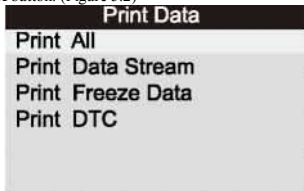

Figure 5.2
- 4) Use the UP/DOWN scroll button to select Print Data from Main Menu in the scan tool, and press the OK button. (Figure 5.2)